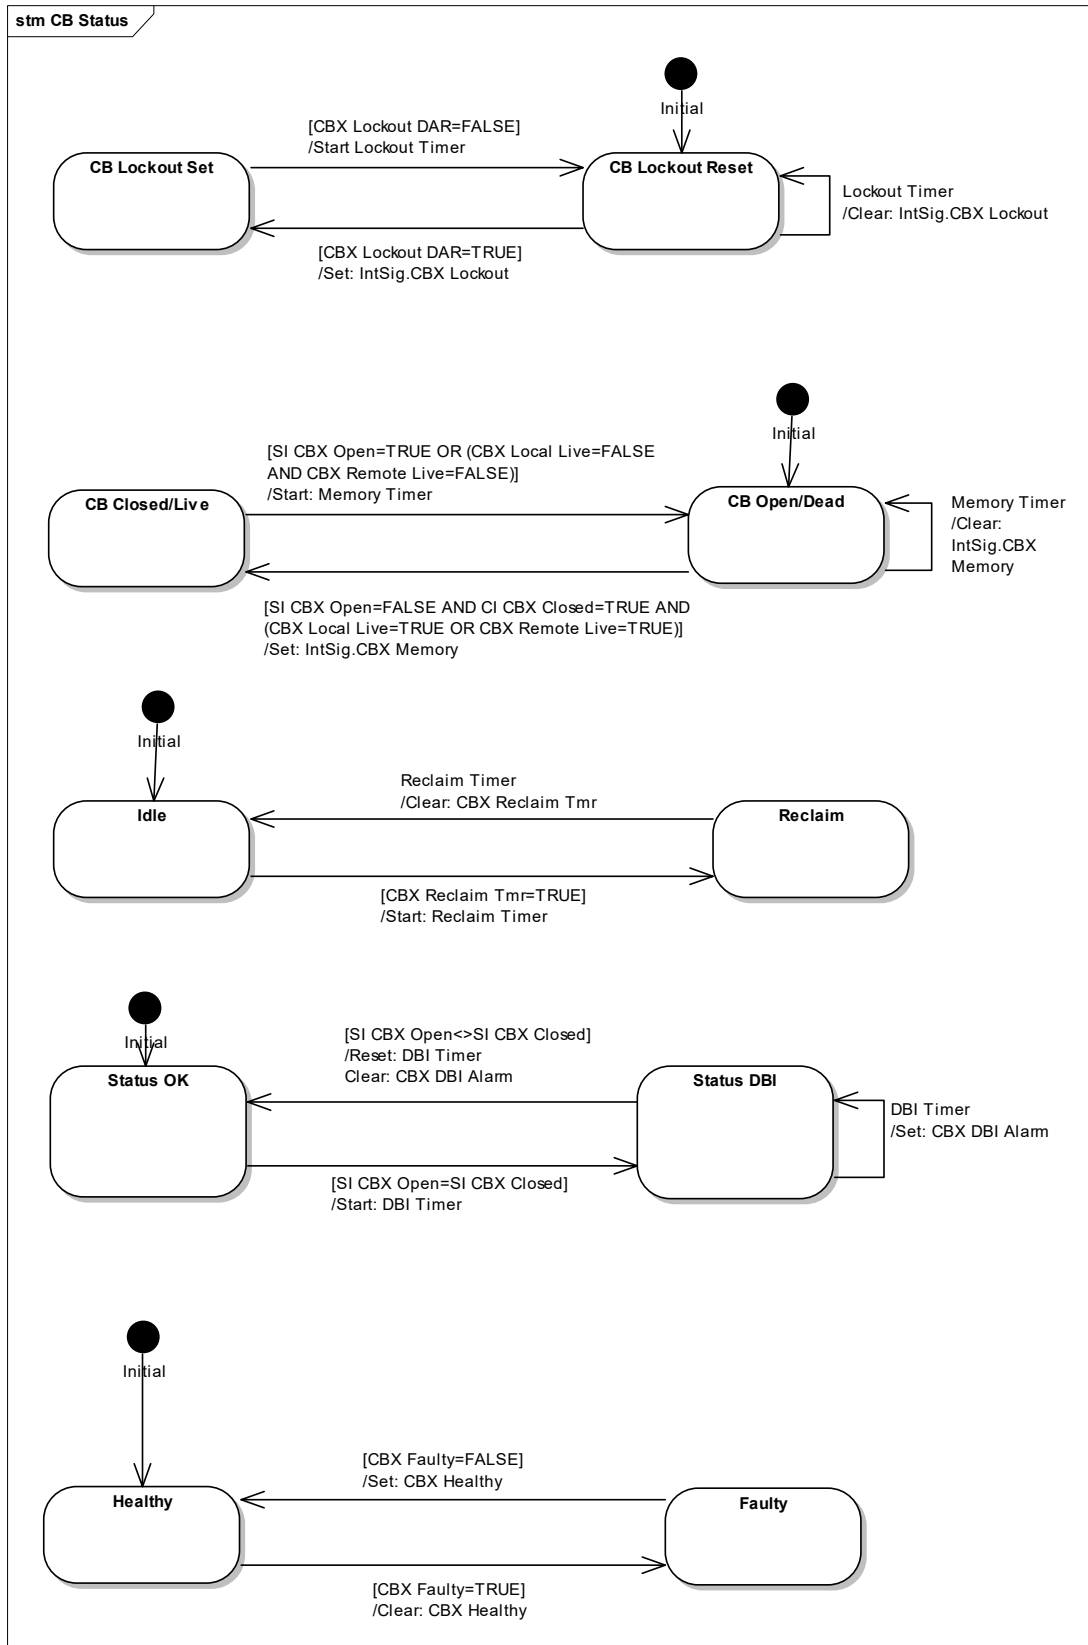

Figure 16: CB function – CB status state chart
- Figure 16: CB Status – Includes several small state charts to manage the status of the circuit breaker.